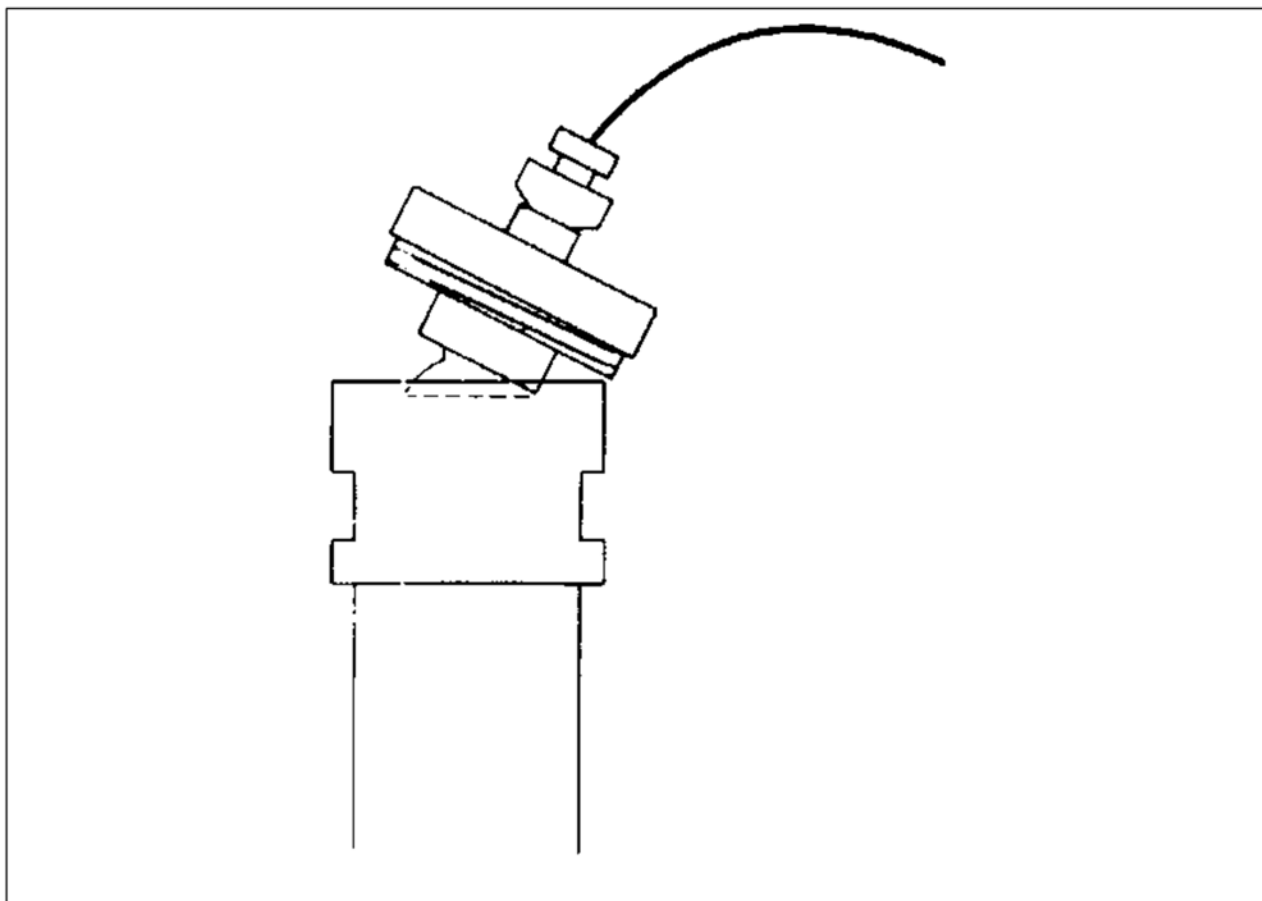

Fig. 3.
1. Wet the column bottom piece by drawing water through it. Make sure there are no air bubbles trapped under the net and close the tubing with a stopper (Fig. 3).